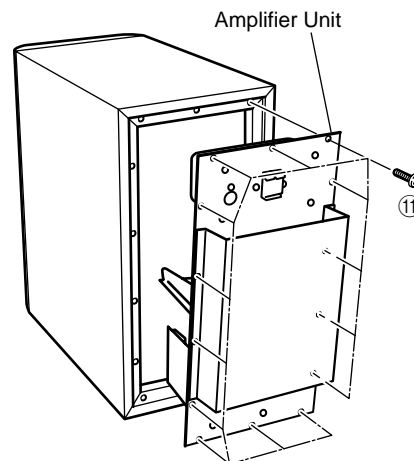

Fig. 9
- a. Remove 14 screws (11) and then remove the Amplifier Unit. (Fig. 9)